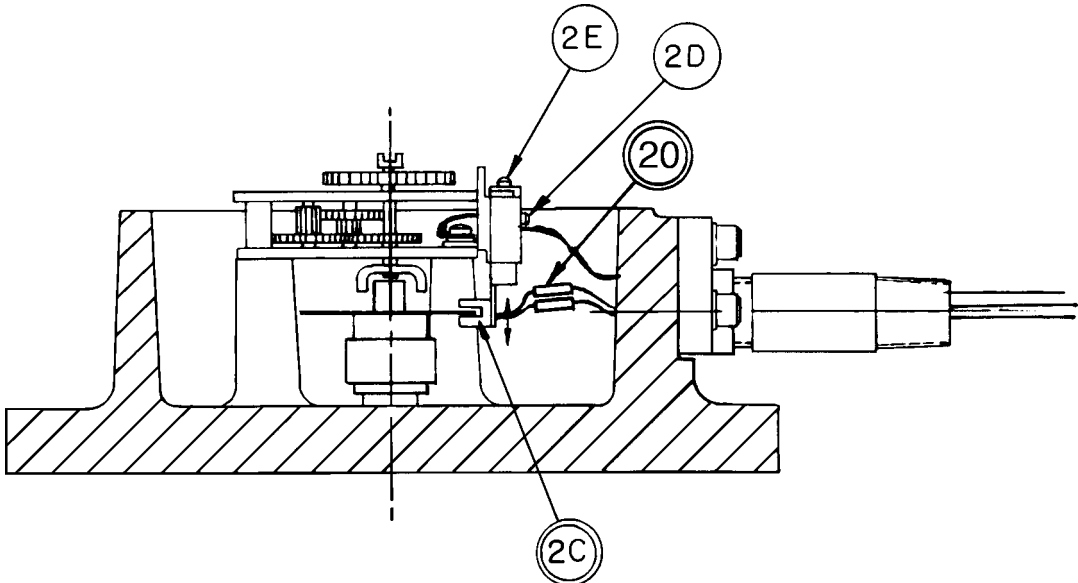

FIGURE 4
- 4 Hold the sensor assembly in position while tightening the pivot locking screw (3).
- 5 Check vertical adjustment of switch for clearance by rotating the chopper disc a complete revolution. Make final adjustment with screw (2E) and lock in position by tightening screw (2D) (Figure 4 or 8).